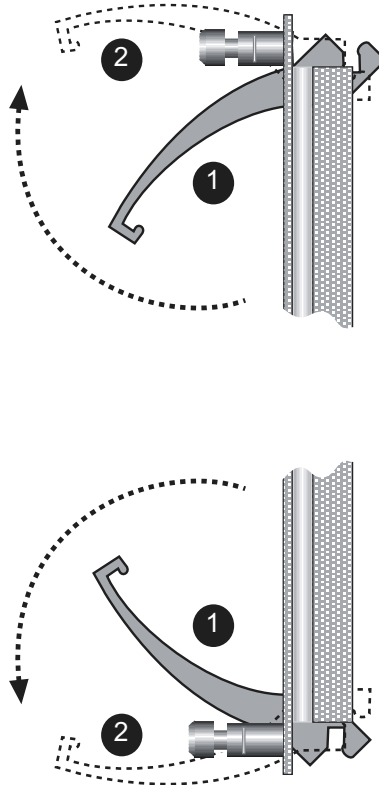

Figure 3-7 Positioning the ejectors
- 6 Make sure that the ejectors are in position 1, as shown in Figure 3-7.
- 9 Insert the module into the backplane by simultaneously depressing both ejectors (as shown in Figure 3-7) and exerting forward pressure on the module.
- 9** Insert the module into the midplane by simultaneously depressing both ejectors (as shown in Figure 3-7) and exerting forward pressure on the module.
- 4 Raise the ejector handles located at the top and bottom of the module so that they are in position 2, as shown in Figure 3-7.